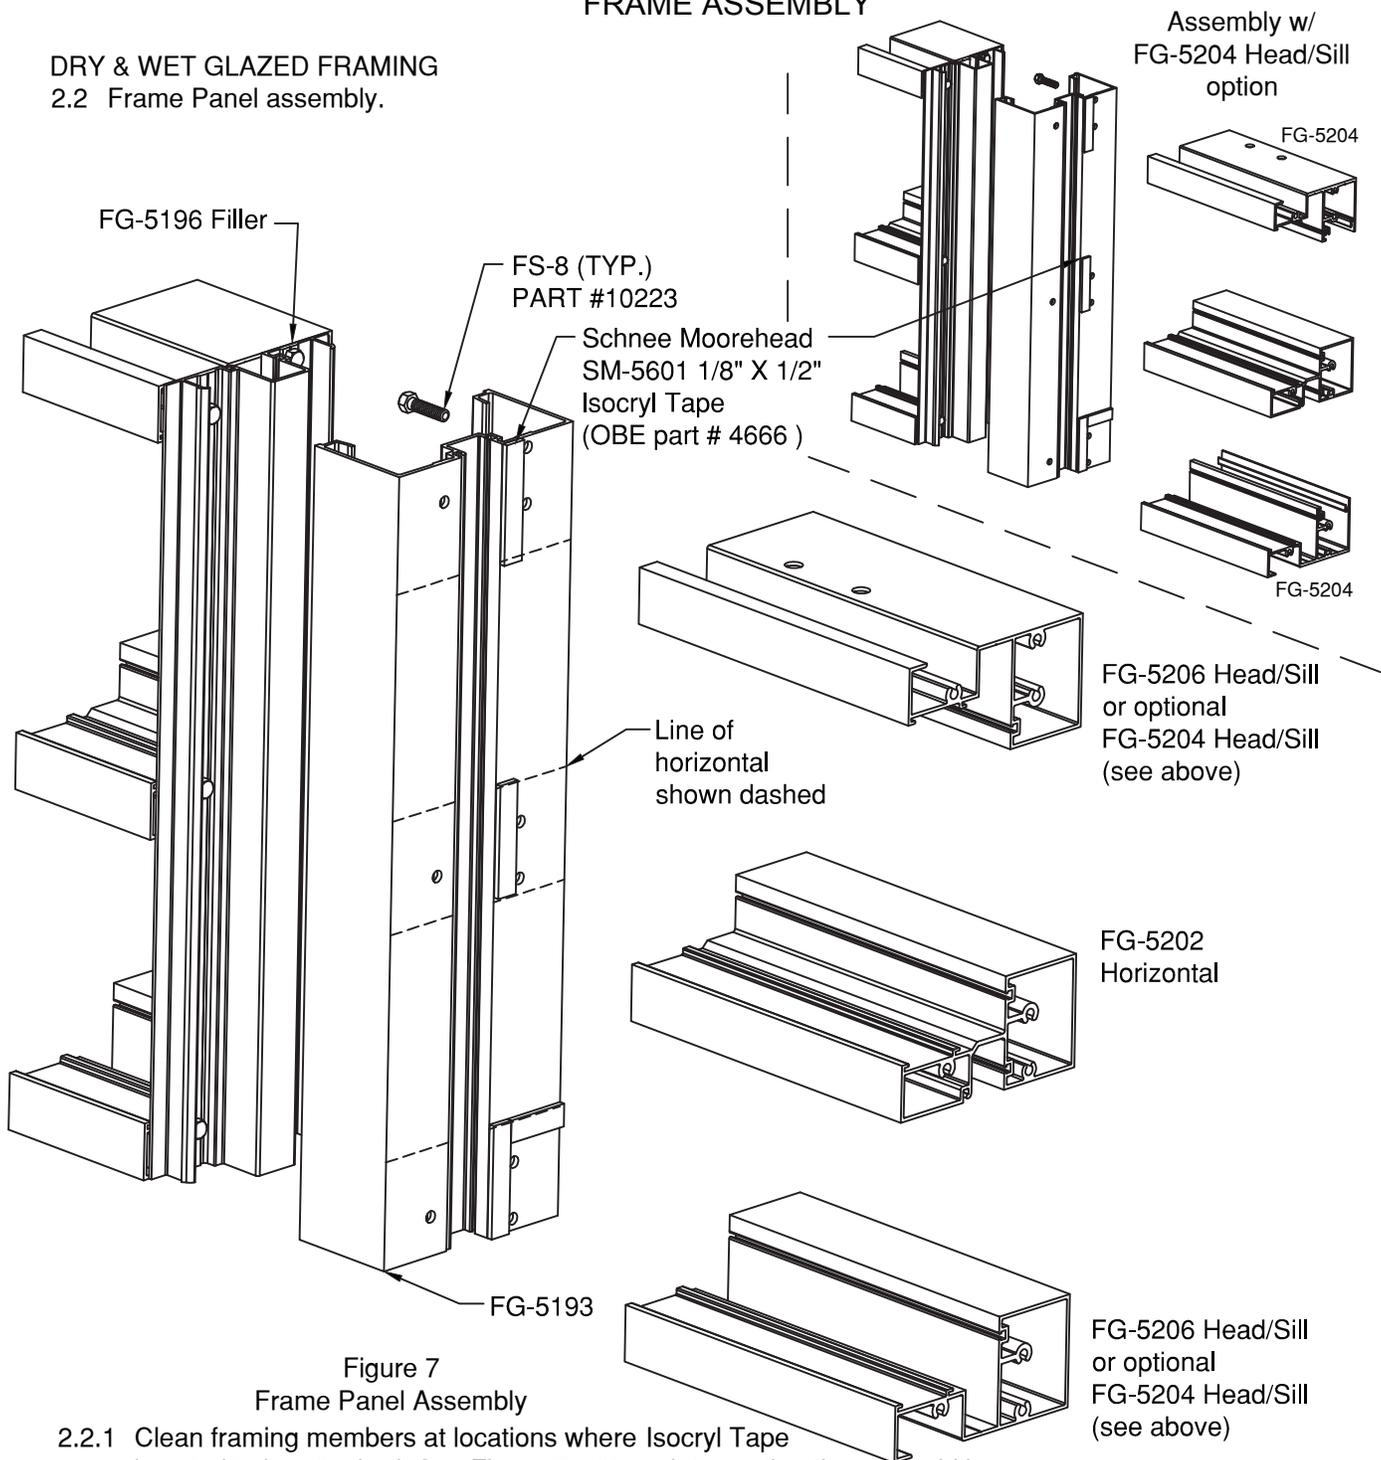

Figure 7
- 2.2.1 Clean framing members at locations where Isocryl Tape is noted to be attached. See Figure 7, at tape intersection there should be no gaps.
Note: also install FG-5185 at vertical , if it was not installed prior to attaching horizontals **see Figure 7 on Page 12 .**